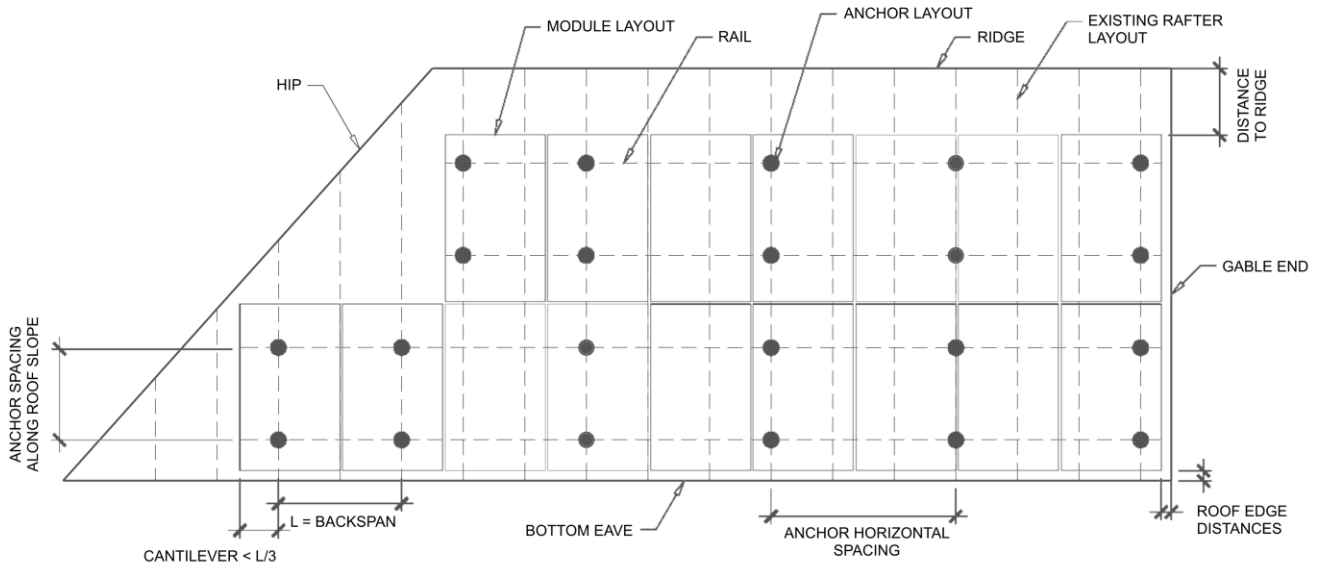

FIGURE 2. SAMPLE SOLAR PANEL ARRAY AND ANCHOR LAYOUT DIAGRAM (ROOF PLAN)
5. Is a roof plan of the module and anchor layout attached? (see Figure 2) Yes No
- a. Proposed anchor horizontal spacing (see Figure 2): _____ ft. _____ in.
1. Anchors are also known as "stand-offs," "feet," "mounts," or "points of attachment." Horizontal anchor spacing is also known as "cross-slope" or "east-west" anchor spacing (see Figure 2).